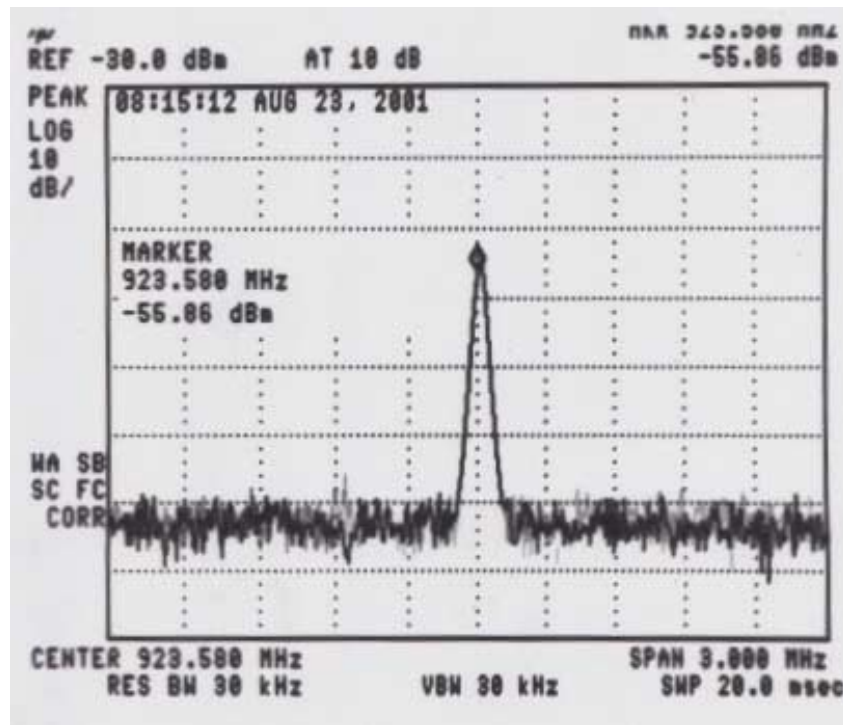

Fig. 3.1.1
Step 8 in **Equipment Setup** has a display on the spectrum analyzer as depicted in Fig 3.1.1. The CW signal generated by the function generator through the signal simulator serves as the uncorrelated signal source.